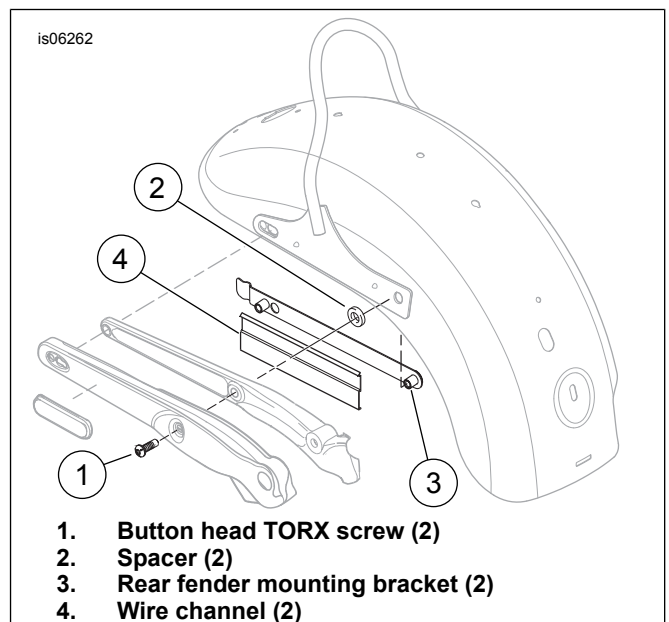

Figure 6. Rear Fender (FXDWG)
1. See Figure 6. **On one side of the vehicle**, remove and discard the TORX® screw (1) retaining the fender support cover, spacer (2), sissy bar, rear fender and mounting bracket (3) to the fender support. Remove the long screw loosely inserted earlier to hold the rear of the fender in position. Note the position and orientation of the plastic wire channel (4) on the bracket. Carefully remove the channel from the bracket.
1. See Figure 6. Route the wiring forward behind the wire channels (4) on each side of the vehicle, and through the wiring hole in the fender to the STT module in the area under the seat.